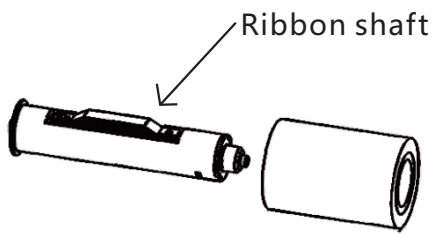

Figure16
1. Take the ribbon out of the package. The printer comes with a set of ribbon shafts (for 25 mm inner diameter ribbon). Install the ribbon according to the installation method shown in Figure 16.